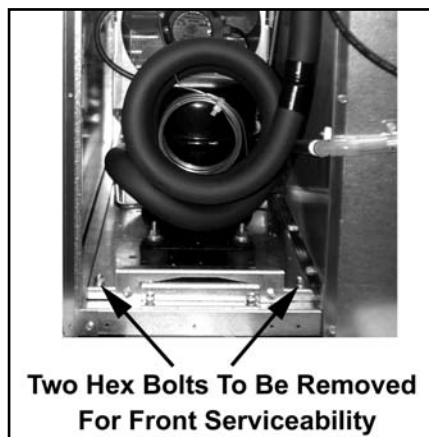

Figure 2
2. Remove the two 1/4" hex head shipping bolts at the rear of the condensing unit base. With these shipping bolts removed, the condensing unit is serviceable from the front of the Pizza Table Refrigerator. (See **Figure 2**)
**Caution:** At installation two shipping screws must be removed from the rear of the condensing unit to allow service from the front of the unit. (Refer to **Figure 2**)